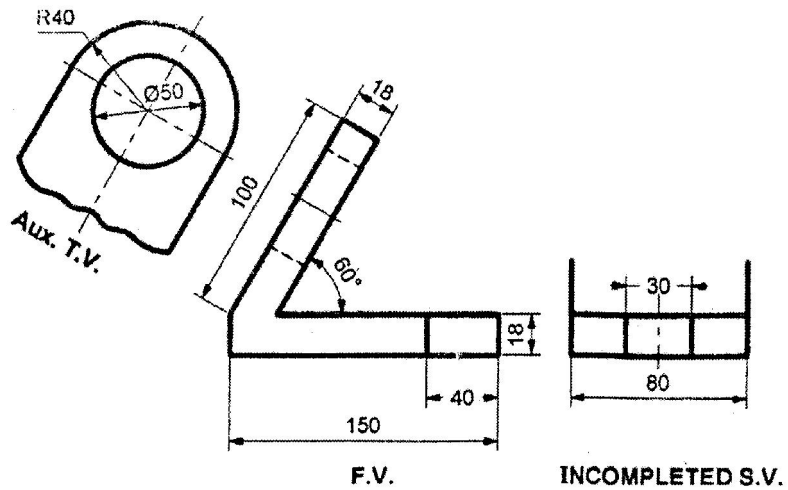

Fig. 5.3
- (c) Fig. 5.3 shows front view, auxiliary top view and incomplete side view. Complete the side view with the help of given views.